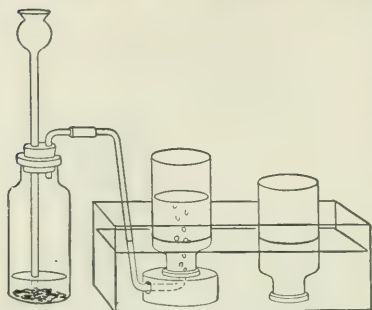

Fig. 61. Making nitric oxide.
a. **Preparation.** Place some pieces of copper (about 10 g.) in a generating bottle and fit it with a 2-hole stopper carrying a thistle tube and a delivery tube, as shown in figure 61. Prepare to collect 3 bottles of gas over water. Pour in enough